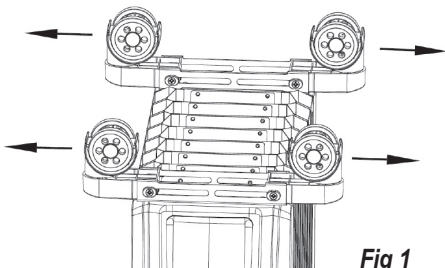

Fig 1
- Pull out the wheel bases to both outmost sides, see Fig 1.